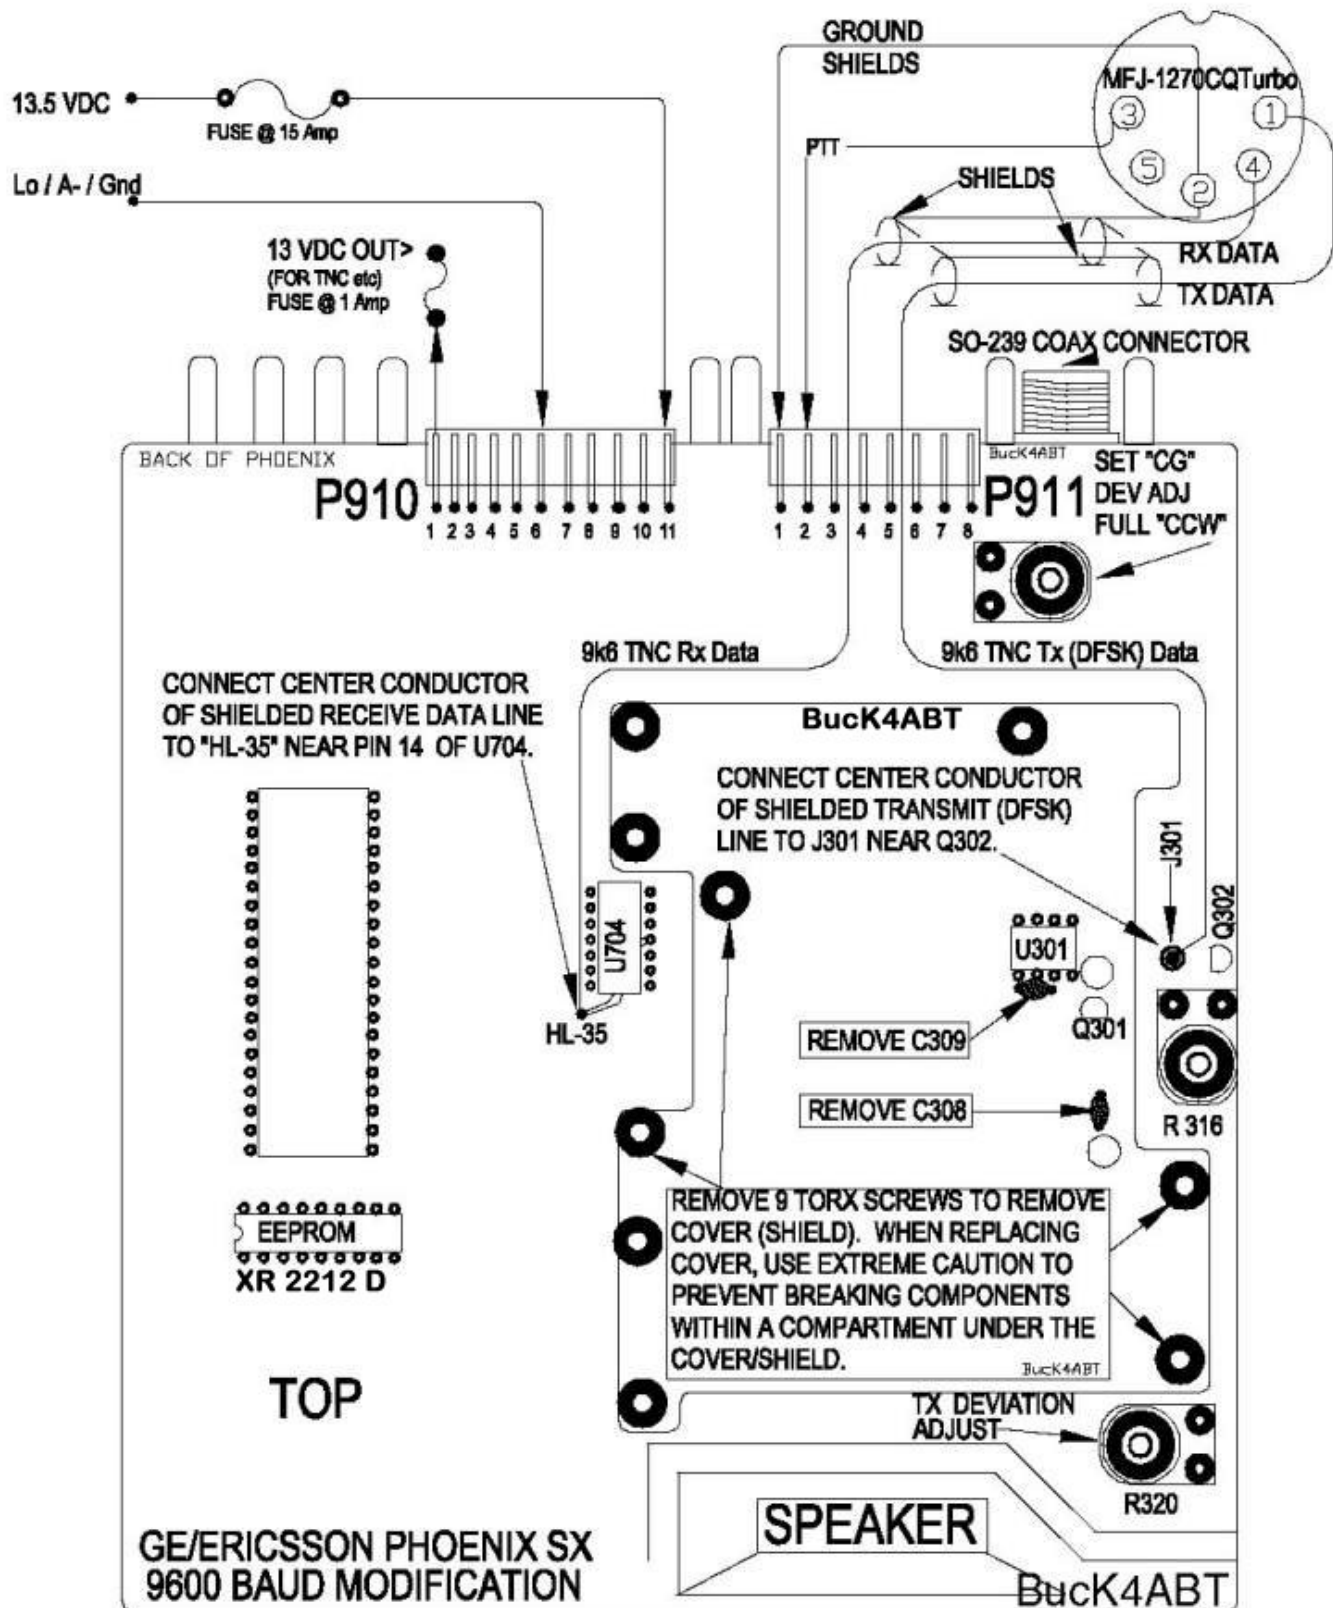
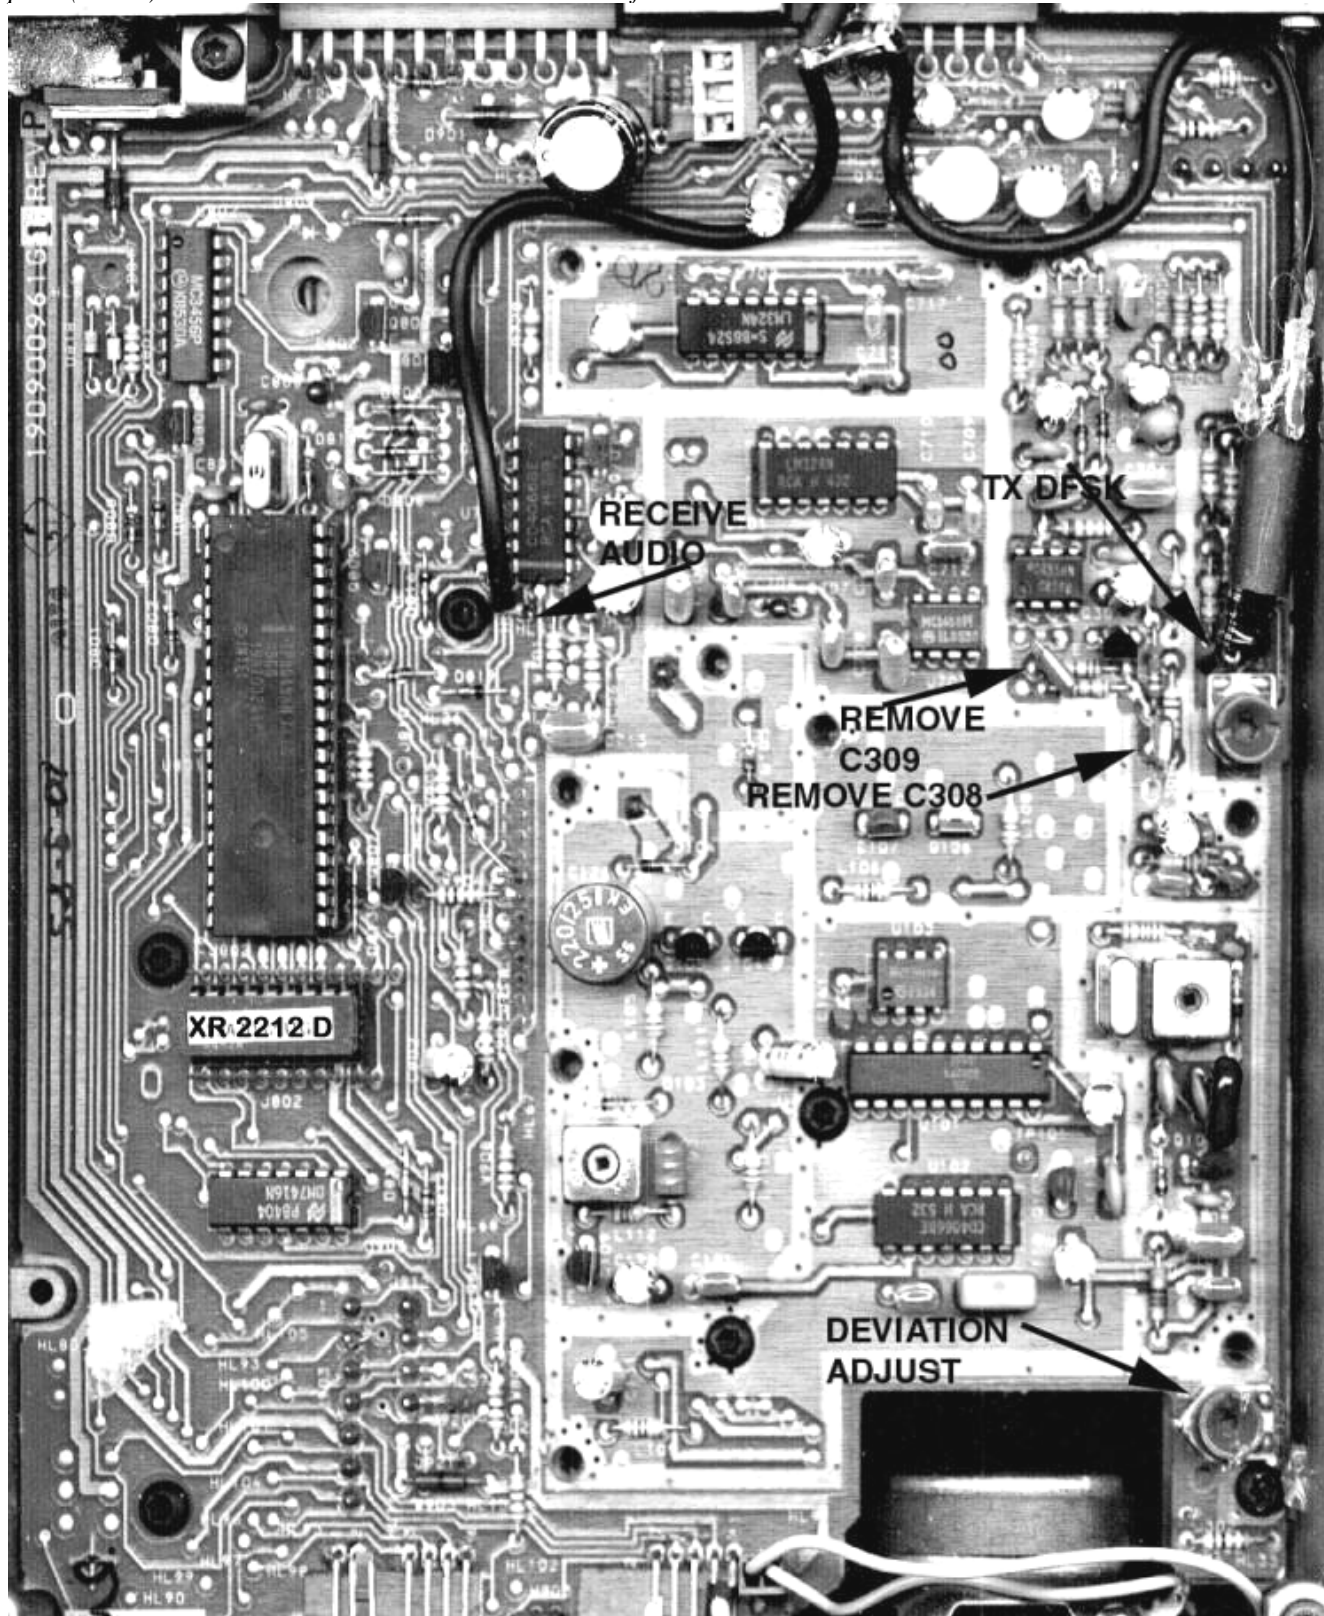

FIGURE 1
FIGURE 3
Make sure the Phoenix is in good working condition by making the connections as shown in **Figure 1**. Test it with the original EEPROM in the radio. This gives us the "Go/No Go" that the radio is (or is NOT), working. When we know the radio is working with the present frequency (EEPROM 2212) configuration. Once the radio is confirmed in good operating condition, we can then proceed to the next steps
If the radio has added mods such as multi-channel piggyback PCBees or unit ID'ers that might be installed, remove these and toss into the spare parts box. In **figure one**, note the "channel guard" deviation control in the upper, right hand corner (see Figure 1). Turn it completely down, or counter-clockwise. The CG pot is located at the rear of the Phoenix near the SO-239, but inside the radio.
Look at figure 1 and note the location of the channel guard deviation control at the rear of the Phoenix, and the location of the transmit (data) deviation control, R320 near the speaker opening at the front of the Phoenix. Remove the nine (9) TORX retaining screws that hold the exciter/vco/audio processor cover/shield in place.
Using the drawing at **figure 1** and/or the photo at figure three to locate the two capacitors designated as C308 and C309. Carefully remove these caps, or if you prefer, simply clip one end loose from the PCB. **DO NOT** allow the capacitor to be left in a position that will restrict the cover/shield from seating back flush with the area from which it was removed. Both these components are located near the inside edge of the shield housing, in the area of the pot labeled **R318**.
To make sure the feed point at J301 is isolated, or there is no DC connection, I use a 1 to 4 uF, non-polarized (available at most *Radio Shacks and Tech-America stores*) capacitor to couple the DFSK signal into the Phoenix at J301, near R318 (see Figure 1 and Figure 3). On the same side of the radio, but just outside the over/housing/shield, is U704, and near pin 14 is a trace labeled *HL-35*. This point (*HL-35*) is where we attach the receive audio that is fed to the 9600 baud TNC.
The receive pick-off point at HL-35 provides plenty of 9600 baud audio to drive the receive portion of our 9600 baud TNC or node. With (almost) all the TNCees I've worked with, the MFJ-1270CQ Turbo, the Kantronics KPC-9612, and the PacComm NB-96, the results have been exceptional. Use figure 1 to make the connections for the "Push-To-Talk" line. You will also use the same drawing to locate the ground connections to pin 1 of P911 and pin 6 of P910.